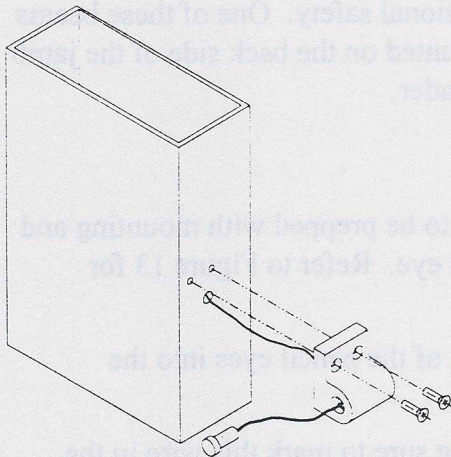

Figure 14: Pencil Beam Installation for Overhead-Concealed units.
2. Feed the electrical wire through and press one of the pencil eyes into the mounting block as shown in Figure 14.
4. Secure the mounting block with the two (2) #8-32 screws provided.